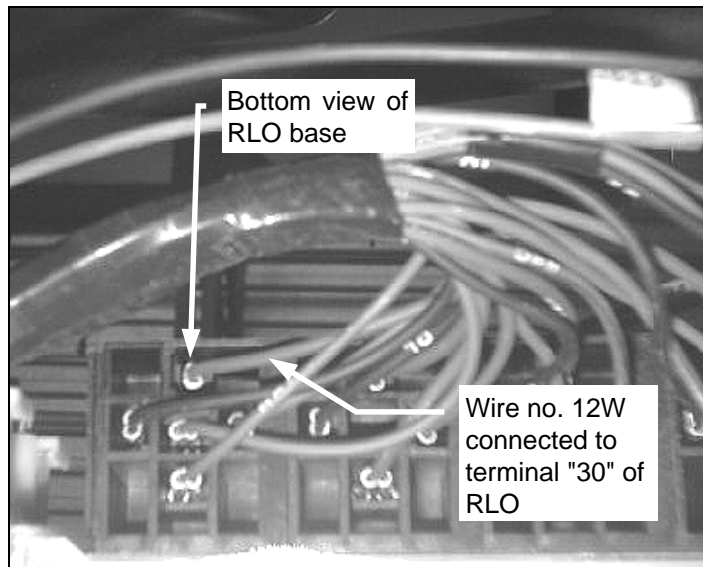
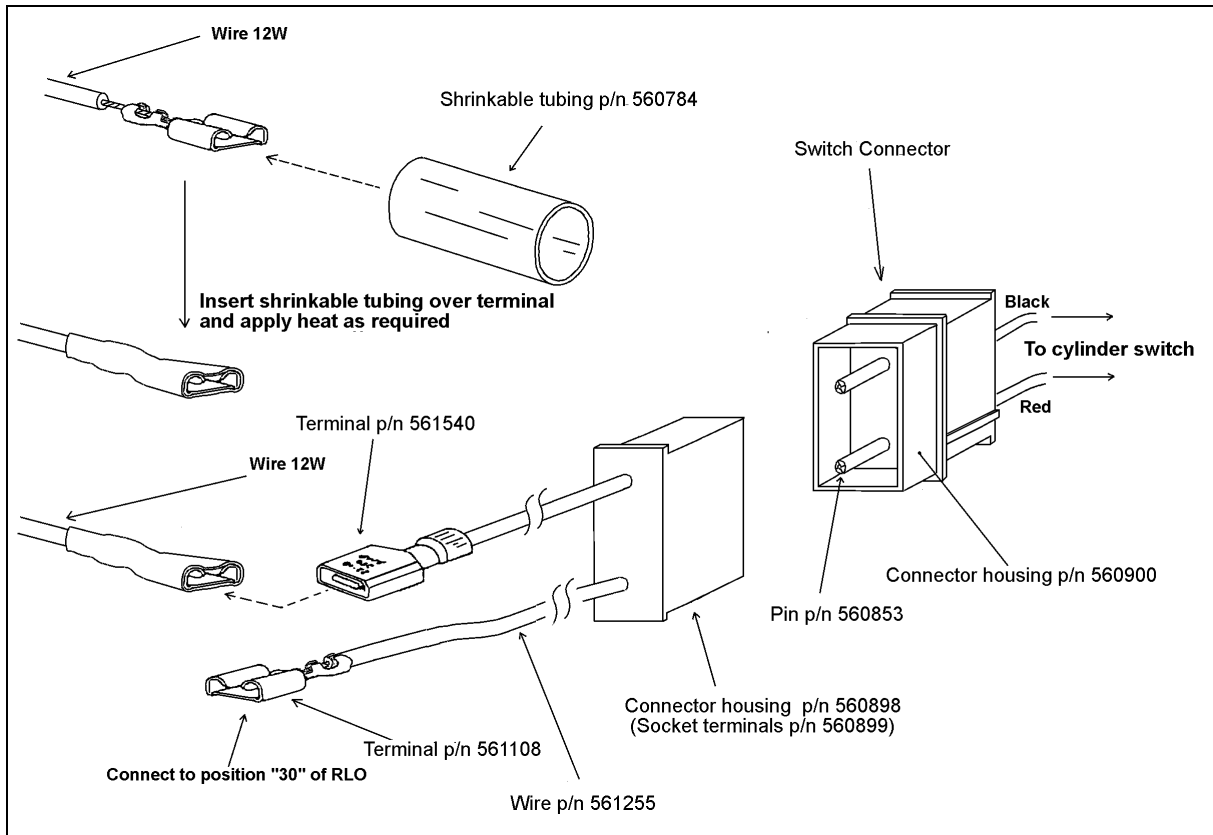

FIGURE 4: RELAY RLO / TERMINAL "30"
FIGURE 6:
- Using a small screwdriver to disengage terminal from relay base, disconnect terminal from position "30" of relay RLO (Figures 4 and 5.)
- Connect male terminal of switch-extension-cable to wire 12W (Figure 6).
- Connect female terminal of switch-extension-cable to terminal "30" (Fig. 4) of RLO (Figure 6).
- Connect switch-extension-cable to connector of cylinder switch (Figure 6).